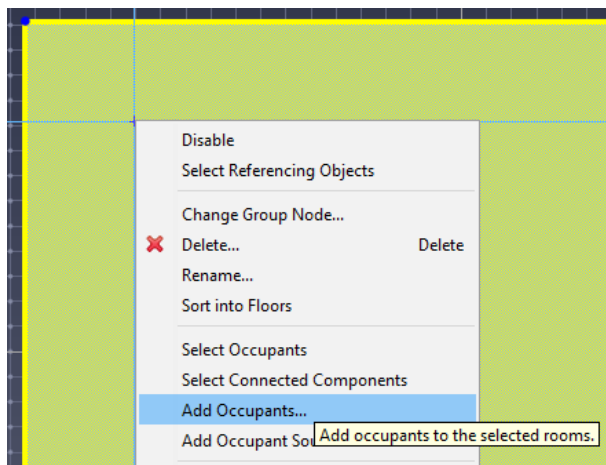
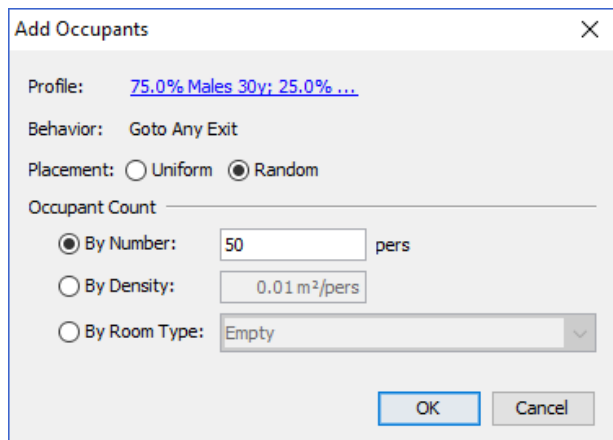

Figure 128. Add occupants in context menu
Figure 129. Add occupants dialog
1. Select the desired rooms and choose **Add Occupants** from the **Model** menu or the right-click menu as shown in Figure 128. This will bring up the Add Occupants dialog (Figure 129). For an explanation of the dialog's options, please see Section 5.4.2.